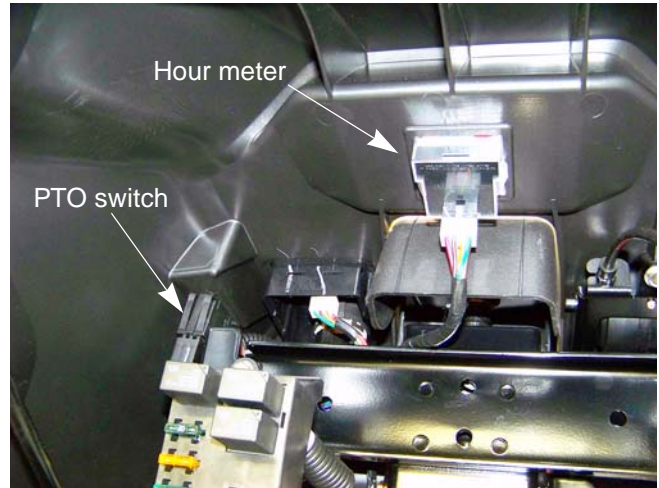

Figure 4.29
7. Disconnect the PTO switch. See Figure 4.29.